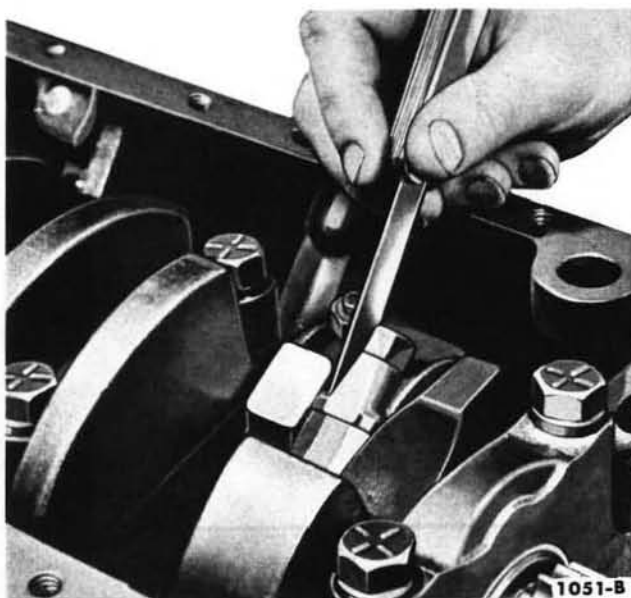

FIG. 44—Connecting Rod Side Clearance
5. After all the piston and connecting rod assemblies have been installed, check the side clearance between the connecting rods on each crankshaft journal (Fig. 44).